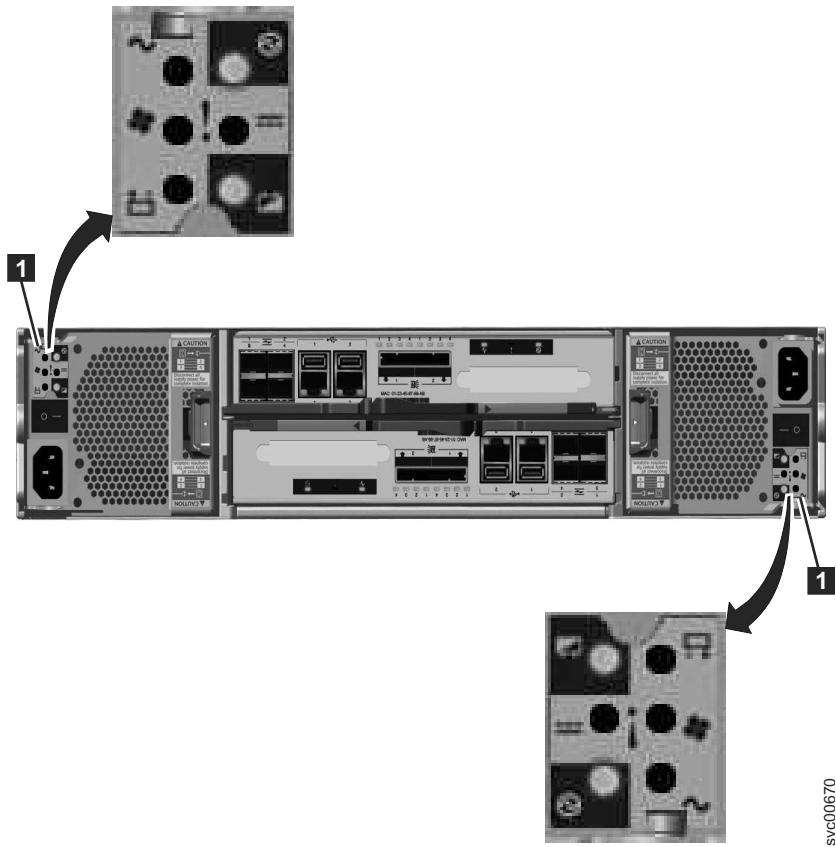

Figure 37. LEDs on the power supply units of the control enclosure
1. Use the state of the ac power failure, power supply OK, fan failure, and dc power failure LEDs on each power supply unit in the enclosure to determine if there is power to the system, or if there are power problems. Figure 37 on page 113 shows the LEDs on the power supply unit for the 2076-112 or 2076-124. The LEDs on the power supply units for the 2076-312 and 2076-324 are similar, but they are not shown here.